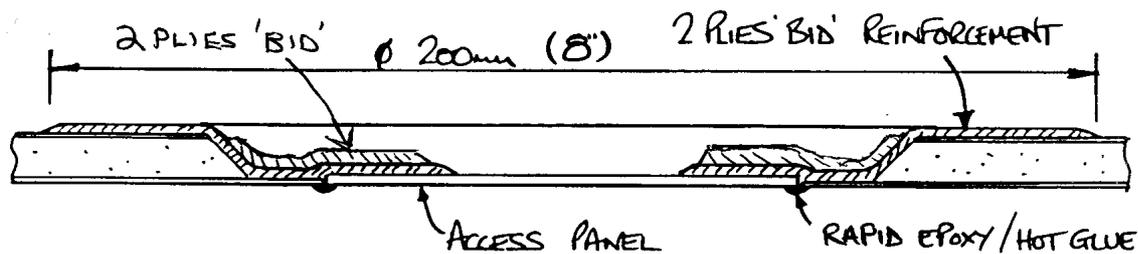

Fig 6. Flange layup.
6. Lay-up reinforcement plies of 2 plies of 'bid', the second ply being at 45° to the first, around the hole. These plies should lap onto the access panel by about 20 - 30 mm (0.8 - 1.2") and be about 20 cm (8") in diameter - (figure 6). Also layup a further 2 plies of 'bid' as extra flange reinforcement.